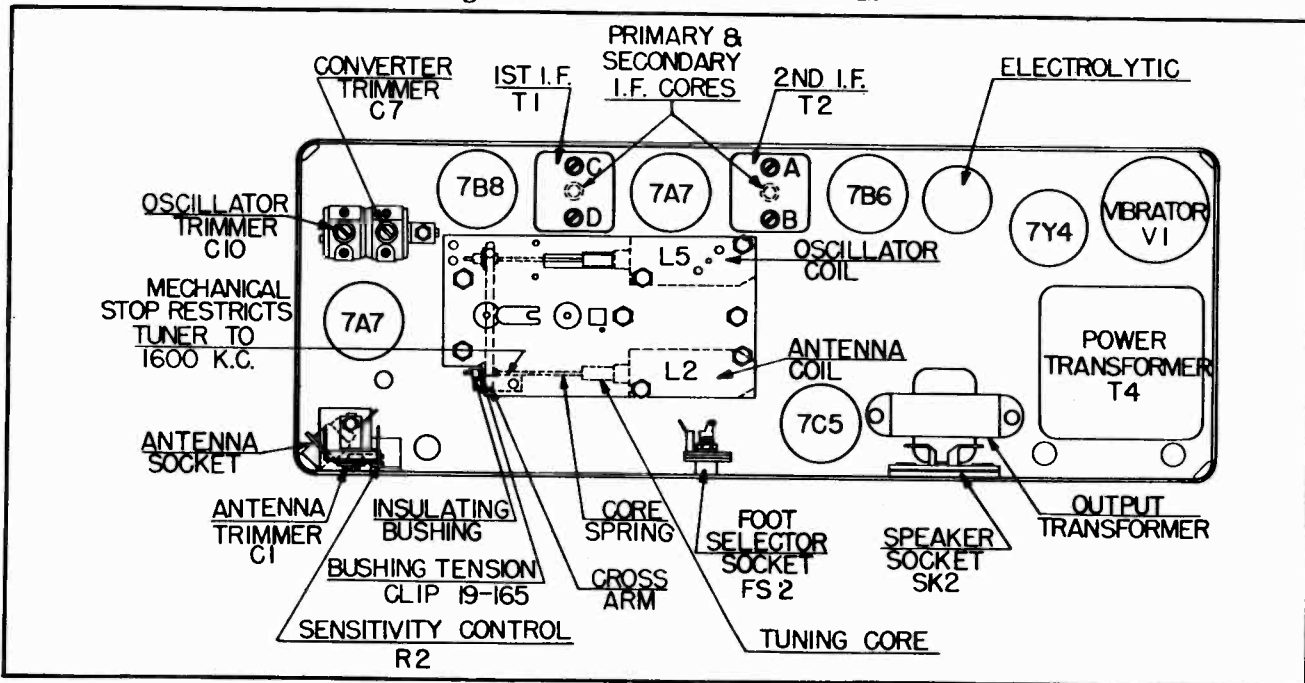

Fig. 12 Rear View of Chassis
4. Adjust I.F. trimmers, A, B, C, and D in order named for maximum output. (Fig. 12) Some units have I.F. transformers that are core tuned. In this case adjust primary and secondary I.F. cores from the top of the I.F. cans with core alignment tool 68-7. Repeat the operation to assure accurate alignment.
4. Adjust oscillator trimmer C-10 (Fig. 12), for maximum response.
7. Adjust converter trimmer C-7, and antenna trimmer C-1 (Fig. 12) for maximum response.
3. When bushing tension clips 19-165 are used, remove them from the cross arm insulating bushing with bent nose pliers. (Fig. 12)
5. Adjust the oscillator trimmer C-10 (Fig. 12) at 1675 Kc.
6. Adjust the converter trimmer C-7, and antenna trimmer C-1 (Fig. 12) for maximum output reading.
9. Adjust the oscillator core L-5 (Fig. 12) s scale at 1400 Kc.
14. After alignment is complete, the maximum high frequency tuning range should be checked. If the range is greater or less than 1605 Kc., the lug stop should be bent to limit the frequency coverage to 1605 Kc. (Fig. 12)